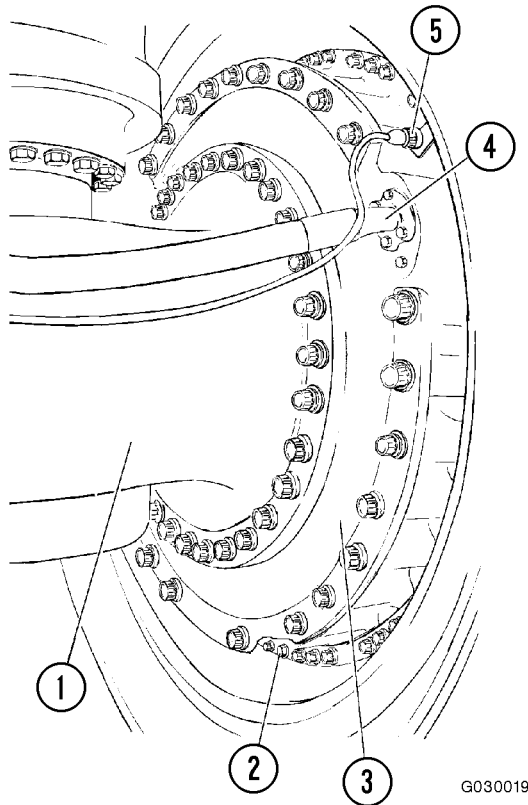
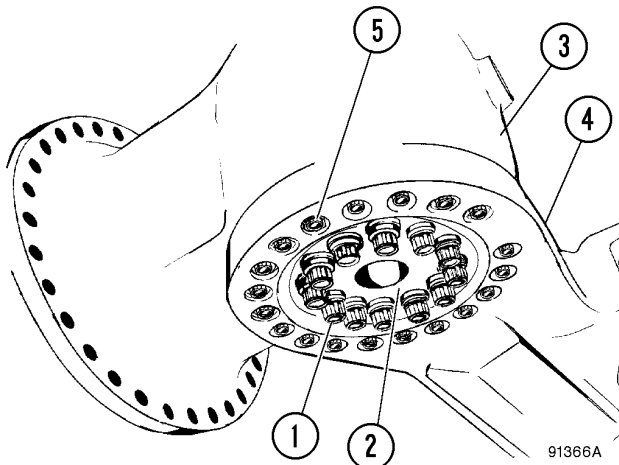

FIGURE 3-1. FRONT WHEEL & SPINDLE INSTALLATION
FIGURE 3-2. STEERING ARM ASSEMBLY
6. Disconnect speed sensor connector(s) (5, Figure 3-1). Tie the cables back away from the spindle to prevent damage during spindle removal.
7. Disconnect brake cooling oil lines (4) at the inlet and outlet ports on the brake housing. Plug the hoses and ports to help prevent contamination.
9. Remove drain plug (2) and drain the oil from the brake housing and hub bearings into a suitable container.
12. Position a fork lift under the wheel hub and spindle assembly as shown in Figure 3-2. The weight of the spindle assembly is approximately 6 652 kg (14,665 lb). Ensure the lifting device can handle the load safely. Ensure the spindle and hub are securely fastened to the lifting device to prevent tipping when it is free from the suspension.
13. Remove capscrews and washers (1, Figure 3-2) that secure retainer plate (2) to the spindle structure and suspension. To prevent thread damage, loosen the capscrews in a circular pattern in torque increments of **678 N·m (500 ft lb)**. Remove the retainer plate.
14. Remove 16 steering arm capscrews (5, Figure 3-2) as follows:
5. Lubricate capscrews (1, Figure 3-2) and (5) on the threads and seats with lithium based chassis grease (multi-purpose, EP NLGI).
6. Secure the spindle to the suspension using retainer plate (2) and capscrews (1). Tighten the capscrews using the following procedure: